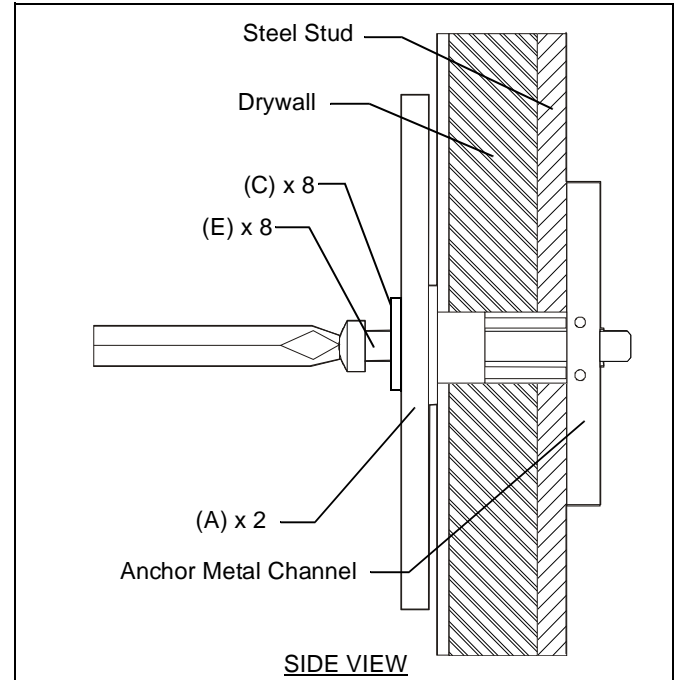

Figure 7
11. Place mount with wall plates (A) over anchors and align mounting holes in wall plates (A) with holes in anchors. (See Figure 7)
12. Place flat washer (C) onto Phillips pan head screw (E). (See Figure 7)
13. Insert Phillips pan head capscrews (E) with flat washer (C) through mounting hole in display mount and into anchor (M) and tighten until flush against mount. DO NOT overtighten! (See Figure 7)